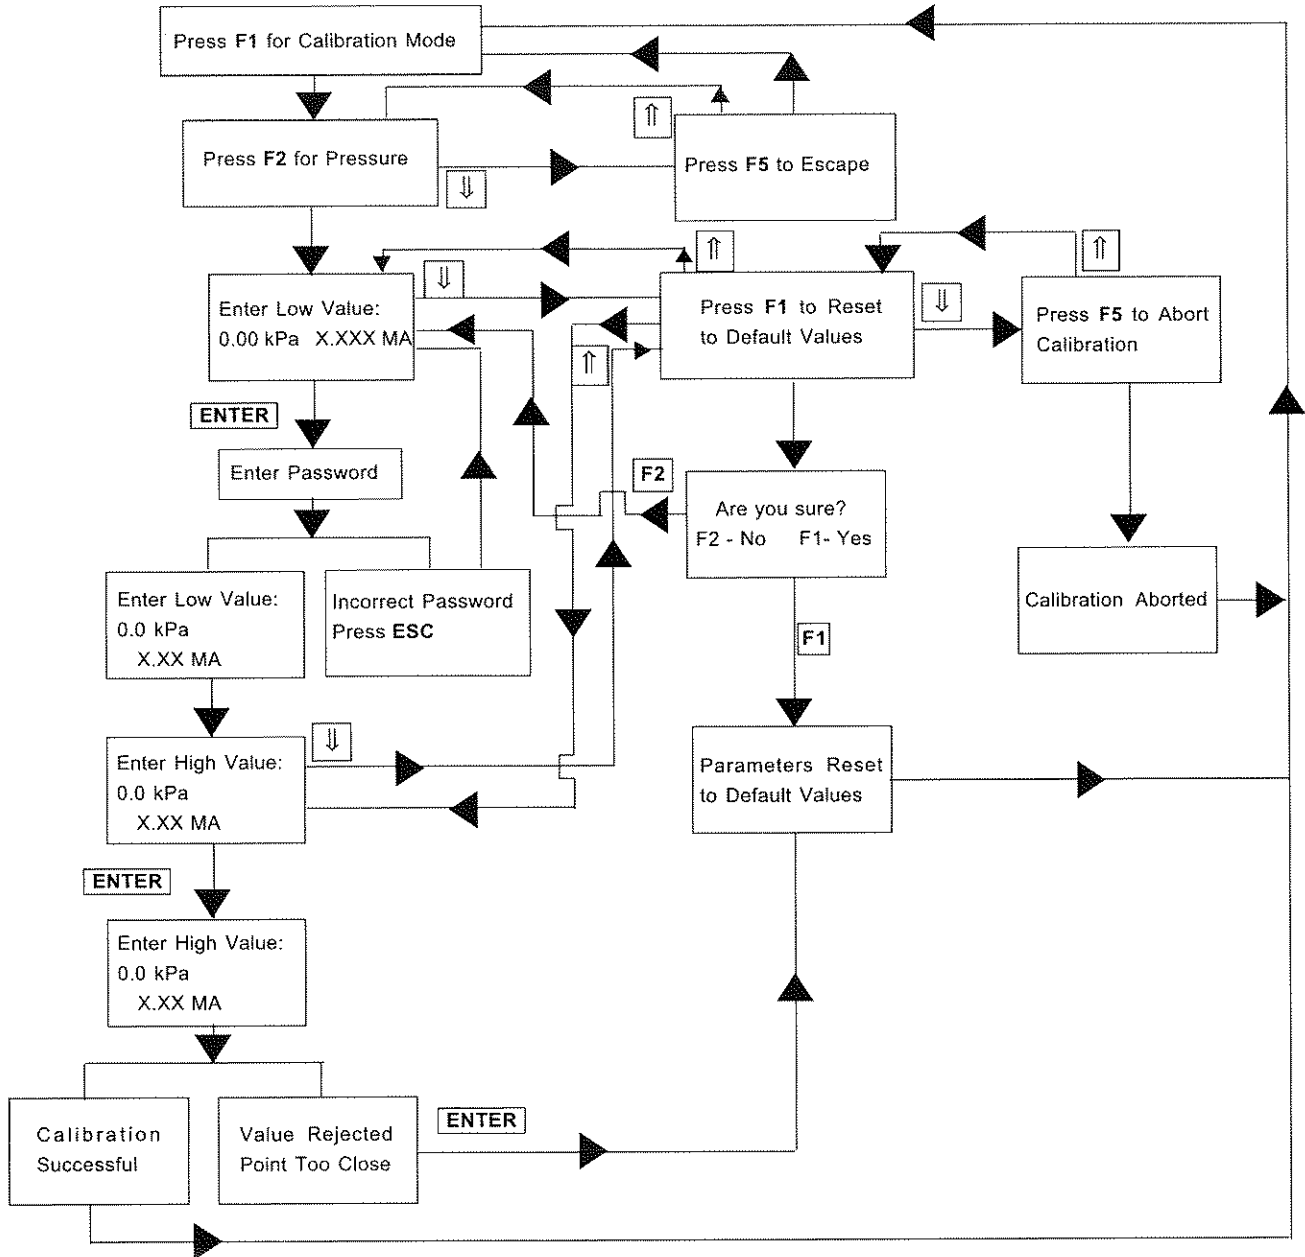

Figure 4-6. TD200 Display: Pressure Calibration Flow Chart
5. Locate TD 200 Display, behind the top portion unload side control access panel, below the conductivity meter (see Figure 4-4). Press F1 on the TD 200 display to access calibration mode (see Figure 4-6).